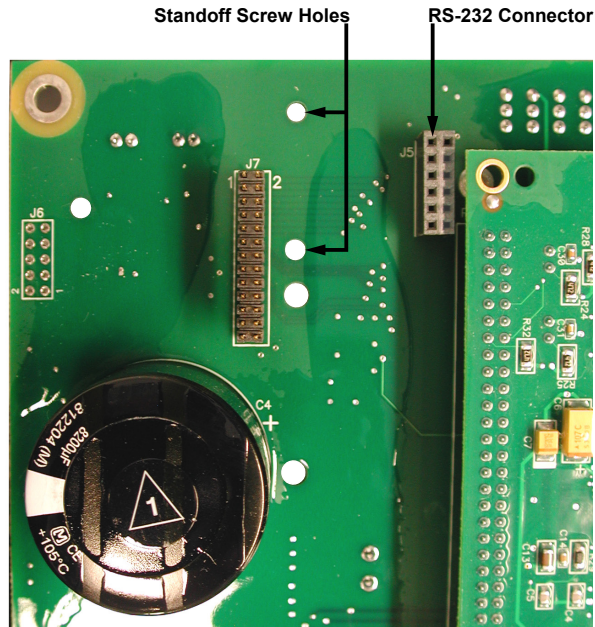
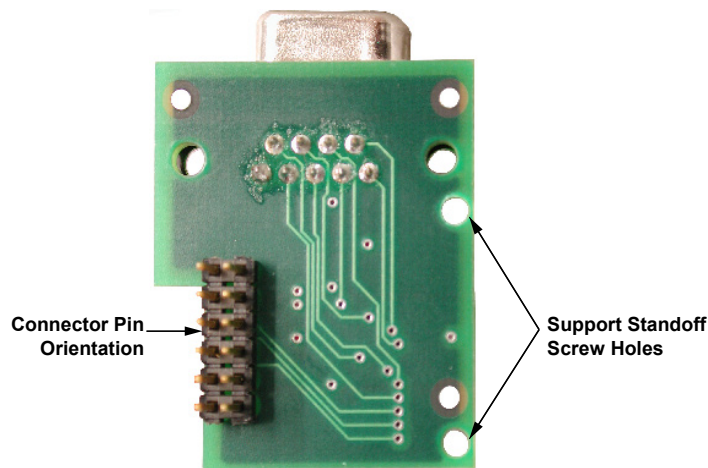
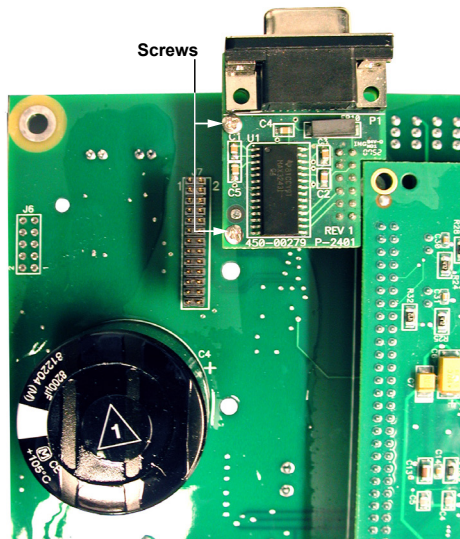

Figure 7-2 Main PCB, RS-232 Connector Orientation
Figure 7-3 Bottom of RS-232 Board, Connector Orientation
Figure 7-4 Main PCB, RS-232 Board Installed
■ **NOTE:** If an RS-232 or Bluetooth Wireless module is already present on the main PCB (Figure 7-4 or Figure 8-4 respectively), it must be removed before the Dual Ethernet board can be installed. Refer to Section 7.1 or Section 8.1 of this Application Guide for instructions to uninstall the appropriate module.
1. Locate RS-232 connector (female socket) and standoff screw holes (Figure 7-2) on the upper left hand corner of the main PCB.
2. Determine if the RS-232 standoff screw holes (Figure 7-2) located on the upper left corner of the main PCB are empty holes or have threaded mounting studs protruding from them.
3. Observing the orientation of the connector pins (Figure 7-3) on the RS-232 board, mount the RS-232 board onto the RS-232 connector (Figure 7-2) on the main PCB.
4. Install two 2-56 x 1/4 screws and lock washers into the standoffs through the RS-232 board support standoff screw holes (Figure 7-3). Figure 7-4 illustrates the correct mounting of the RS-232 board.